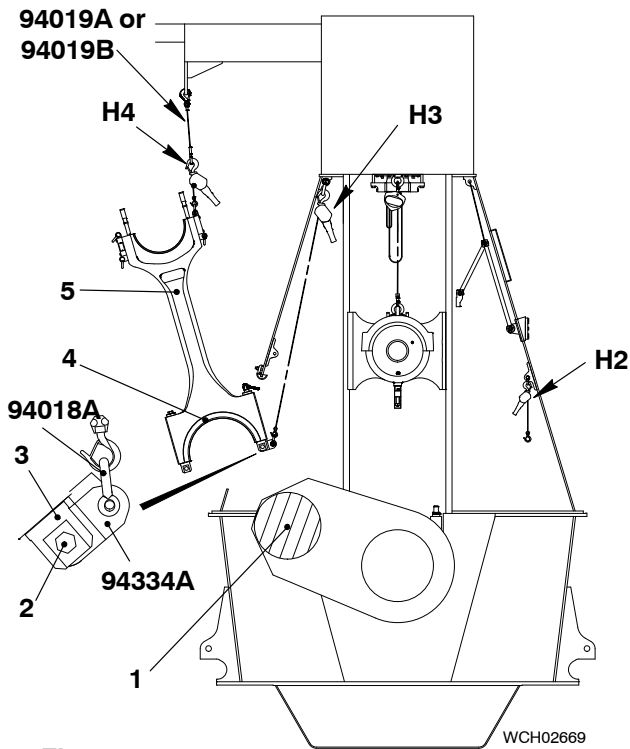
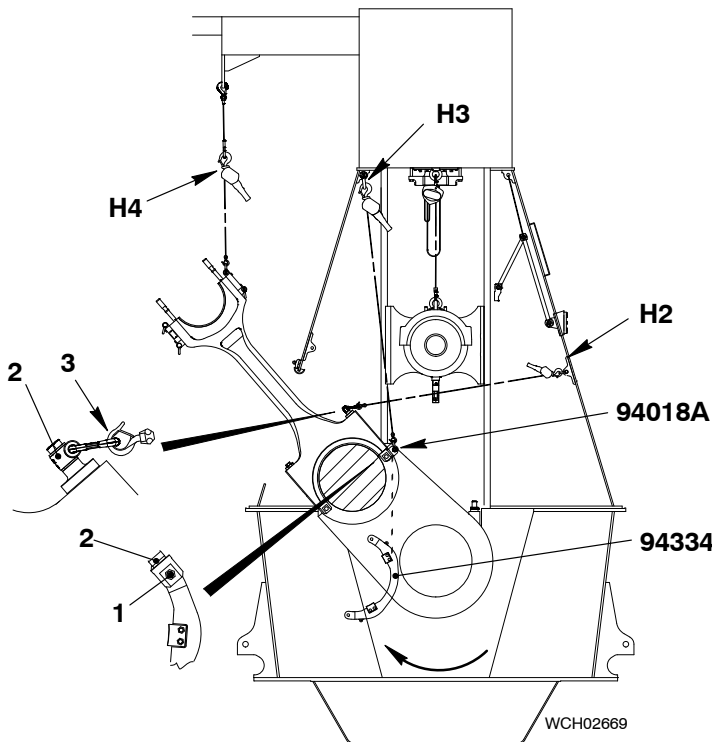

Fig. 11
Fig. 12
- 1) Clean the bearing shell (4, Fig. 11) and the crank pin (1).
- 2) Put oil on the bearing shell (4) and the crank pin (1).
- 4) Attach the manual ratchet (H2, Fig. 12) to the lug (3) on the top rod (2).
- 10) Attach the holder (94334) to the bottom of the rod (2) with the nut and bolt (1).
- 14) Operate the manual ratchets (H4) and (H3) to move the connecting rod (5) clockwise to the position shown.